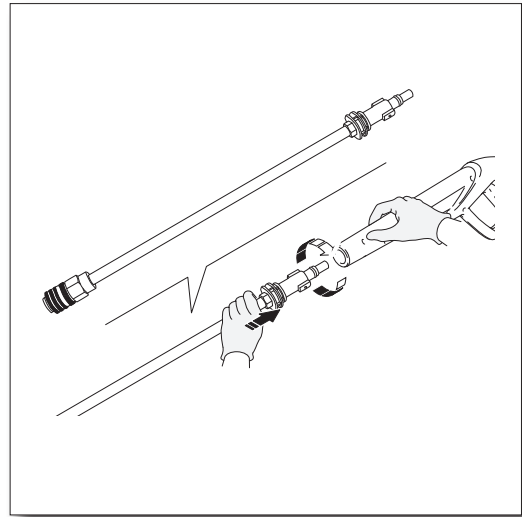

Fig. 8
- While the spray gun is in the locked position, insert the lance into the end of the spray gun by inserting and pushing together turning clockwise simultaneously. To remove push together and turn counter clockwise (**Fig. 8**).